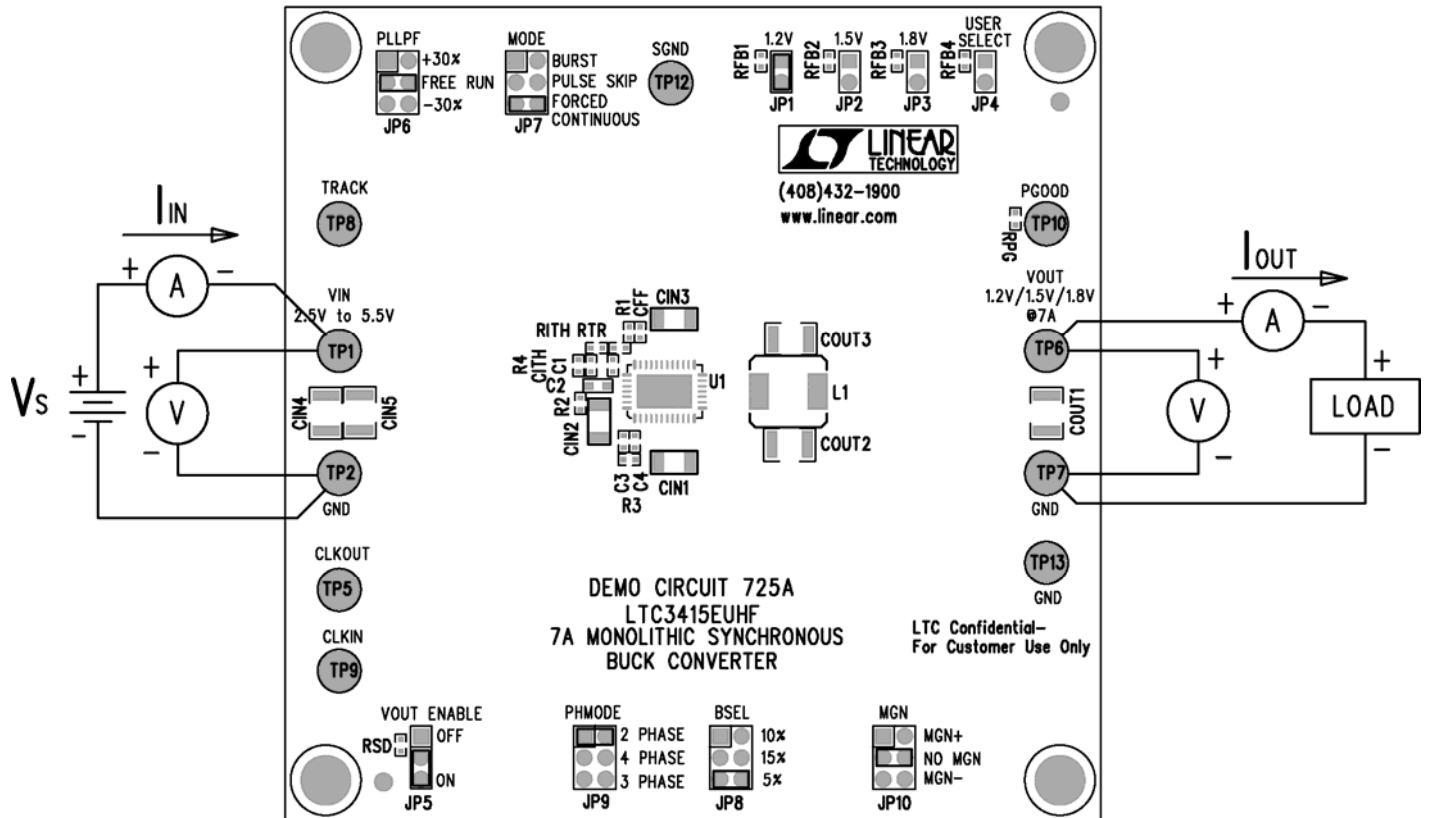

Figure 1. Proper Measurement Equipment Setup
Demonstration Circuit 725 is easy to set up to evaluate the performance of the LTC3415. For proper measurement equipment configuration, set up the circuit according to the diagram in **Figure 1**. Before proceeding to test, make sure the jumper shunts are in the appropriate header according to the legend in **Figure 1**, except for one exception: insert jumper JP5 shunt into the off (upper) position, which connects the RUN pin to ground (GND), and thus, shuts down the circuit.
1. With the DC725 set up according to the proper measurement and equipment in **Figure 1**, apply 3.3V at  $V_{in}$  (Do not hot-plug  $V_{in}$  or increase  $V_{in}$  over the rated maximum supply voltage of 5.5V, or the part may be damaged.). Measure  $V_{out}$ ; it should read 0V. If desired, one can measure the shutdown supply current at this point. The supply current will be approximately 10  $\mu\text{A}$ , or less, in shutdown.